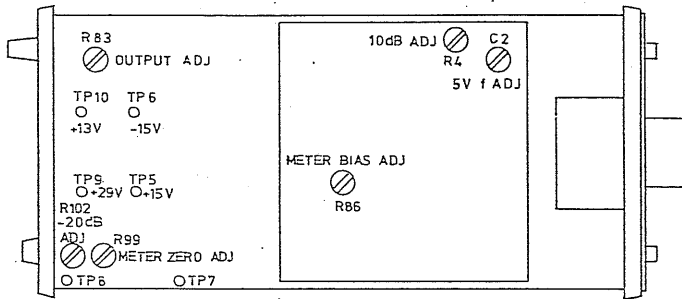
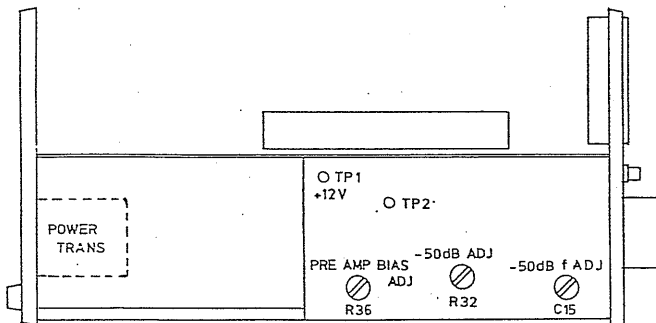

Fig. 5-1 Top view
Fig. 5-2 Side view
Locations of the adjusting potentiometers are shown in Figs. 5-1 and 5-2. To gain access to these potentiometers, remove the top casing after removing the two clamping-screws at each of the top, right and left panels, and remove the bottom casing after removing the four clamping-screws at the bottom panel.
So adjust potentiometer R86 (Fig. 5-1) of the indicating meter drive circuit that the voltage between test point TP7 and GND becomes 0 V. Also, so adjust potentiometer R36 (Fig. 5-2) of the preamplifier of the input section that the voltage between test point TP2 and GND becomes +2.5 V.
Set the RANGE switch (② of Fig. 3-1) at the 50 dB range, short the input terminals, and so adjust potentiometer R99 (Fig. 5-1) of the meter drive circuit that the meter (⑤ of Fig. 3-1) indicates accurately the zero point of the scale.
Set the RANGE switch at the -20 dB range, apply a calibration signal of 150 mV 400 Hz or 1000 Hz to the input terminal, and so adjust potentiometer R102 (Fig. 5-1) of the meter drive circuit that the meter accurately indicates the full scale position. Next, so adjust potentiometer R83 that the voltage of the output terminal becomes 1.5V.
5) Power supply (See Fig. 5-1)